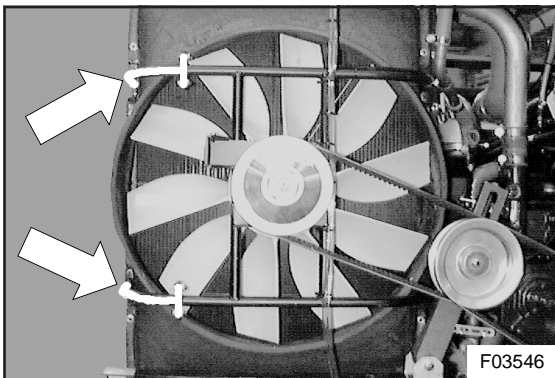

Figure 31: Fan and clutch carrier support brackets
34. With the aid of an assistant, turn the radiator around its vertical axis until the fan and clutch carrier support brackets (see Figure 31) show up in the radiator compartment. Taking care to keep the brackets in the right order and the correct way round, unscrew the retaining bolts and withdraw the brackets.